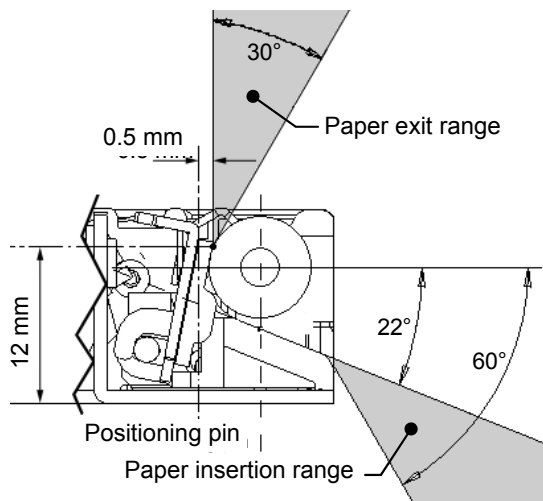

Figure 3.1.3
- 1) Arrange the cutter blade position so that its edge is positioned within the range of paper ejection shown in Figure 3.1.3.